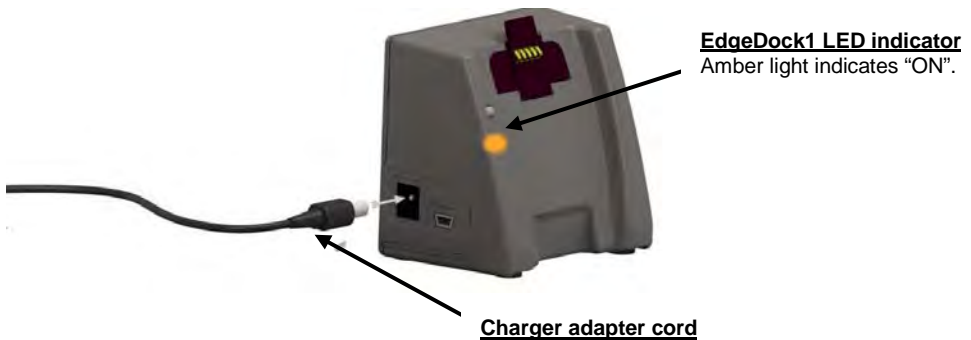

Figure 2-6: Attaching charger adapter to EdgeDock1
1. Plug in the power adapter to the EdgeDock. (See Figure 2-6, page 13.)